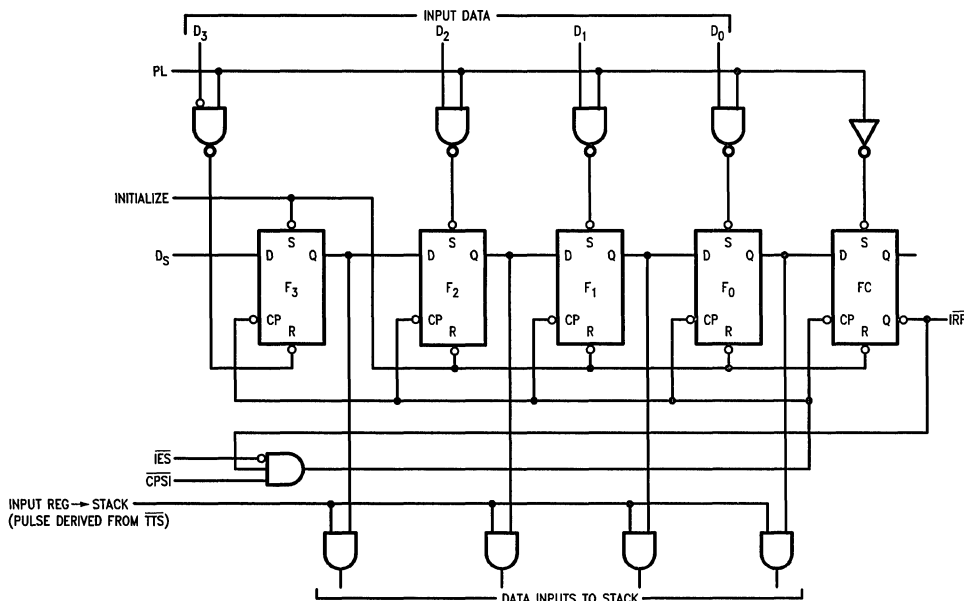

FIGURE 1. Conceptual Input Section
This 5-bit register (see *Figure 1*) is initialized by setting flip-flop F_3 and resetting the other flip-flops. The \overline{Q} -output of the last flip-flop (FC) is brought out as the Input Register Full (\overline{IRF}) signal. After initialization, this output is HIGH.